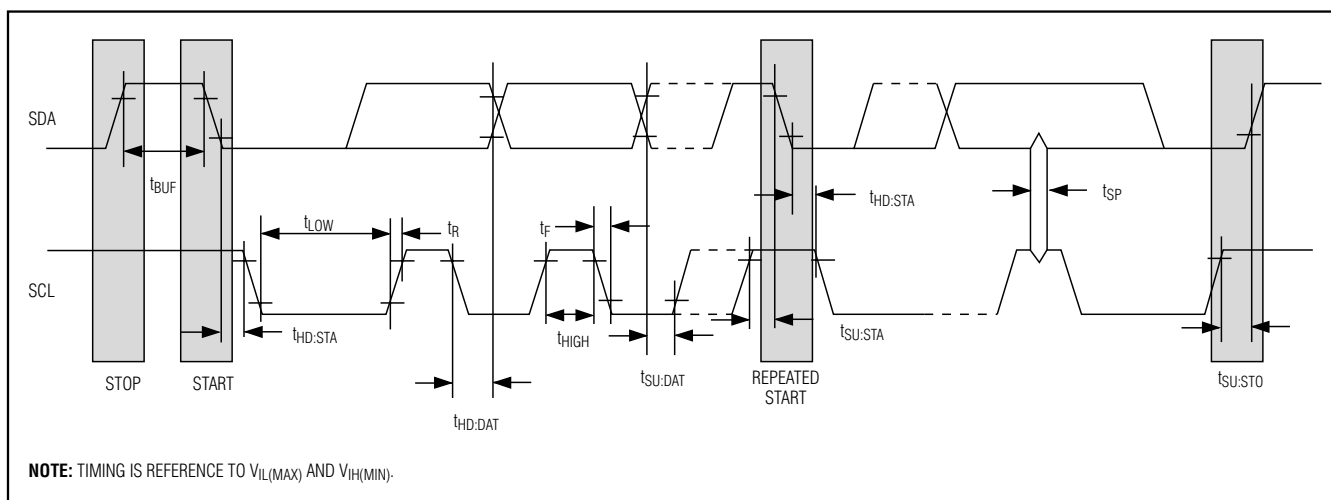

Figure 3. I2C Timing Diagram
The following terminology is commonly used to describe I2C data transfers. See the timing diagram (Figure 3) and the I2C AC Electrical Characteristics table for additional information.
**Acknowledgement (ACK and NACK):** An Acknowledgement (ACK) or Not Acknowledge (NACK) is always the 9th bit transmitted during a byte transfer. The device receiving data (the master during a read or the slave during a write operation) performs an ACK by transmitting a zero during the 9th bit. A device performs a NACK by transmitting a one (done by releasing SDA) during the 9th bit. Timing (Figure 3) for the ACK and NACK is identical to all other bit writes. An ACK is the acknowledgment that the device is properly receiving data. A NACK is used to terminate a read sequence or as an indication that the device is not receiving data.